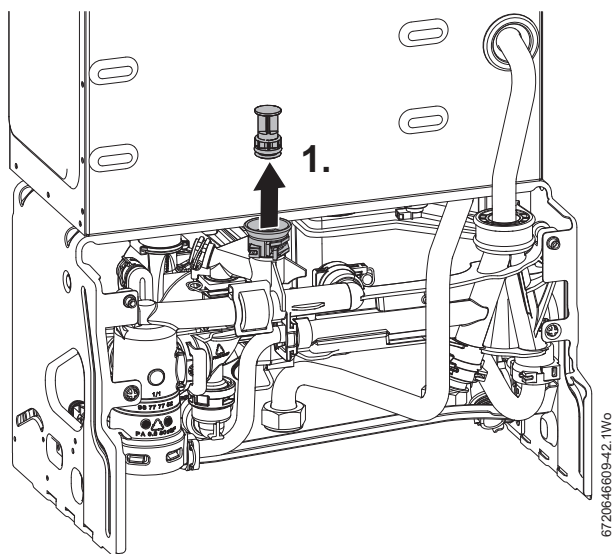

Fig. 31 Removing the blanking plug
1. Ensure that the plastic protection cap, refer to figure 31, is removed from the expansion vessel connection pipe.